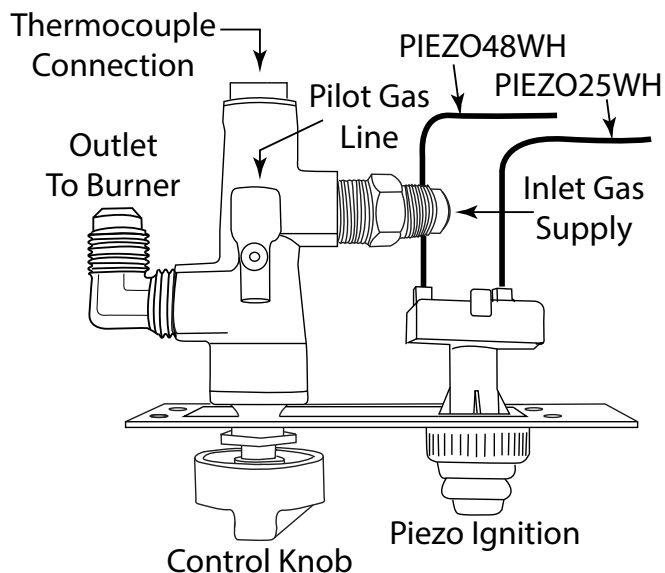

Fig. 7 TPSI control panel mounting plate.
3. The primary gas shut-off (not supplied) will require a 1/2" male flared fitting to enable connection of the stainless steel flex gas line supplied with the fire pit (see Fig. 7 page 9).